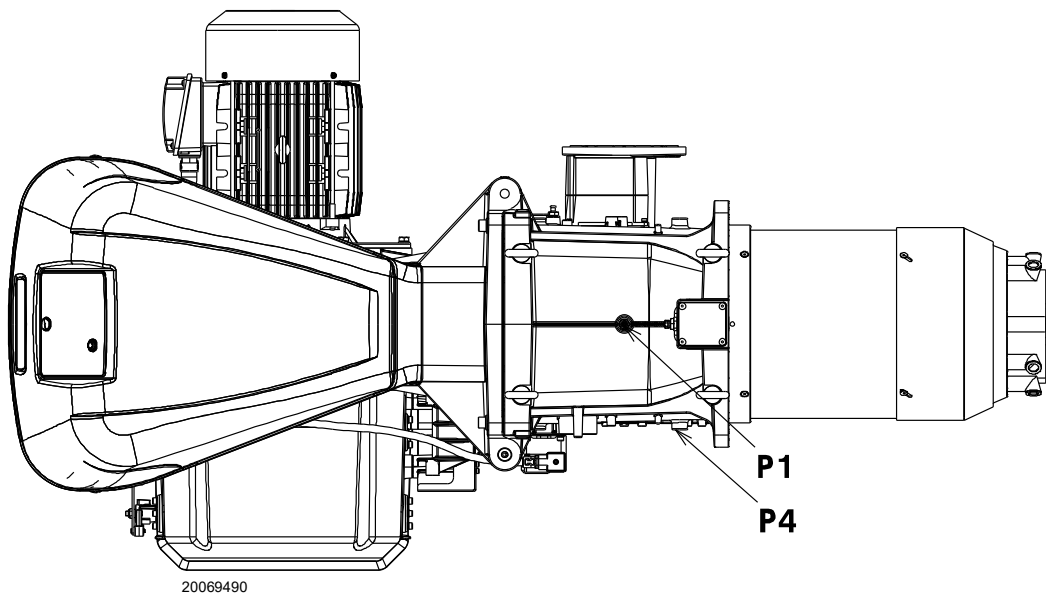

Fig. 23
Gas pressure measured at the test point P1) (Fig. 23 on page 27), with:
- subtract the combustion chamber pressure from the gas pressure measured at test point P1) (Fig. 23 on page 27).
Gas pressure at test point P1) (Fig. 23) = 58.1 mbar
To calculate the required gas pressure at test point P1) (Fig. 23 on page 27), set the MAX output required from the burner operation:
- Read the pressure at the test point P1) (Fig. 23 on page 27).
Pressure required at test point P1) (Fig. 23 on page 27).